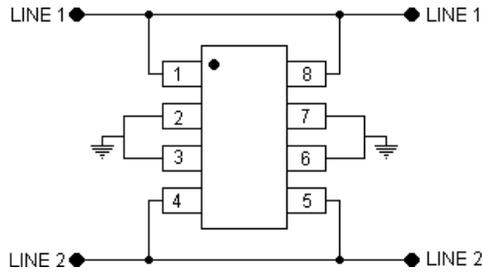
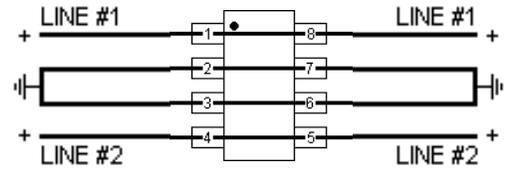

**FIGURE 1**
**FIGURE 2**
- Peak Pulse Power: 500 watts (8/20  $\mu$ s, Figure 1 and Figure 2)